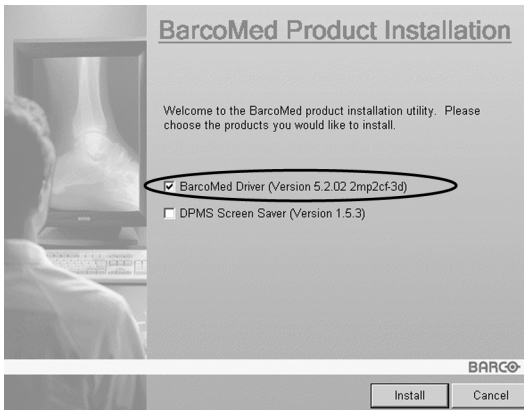

Figure 44
3. To update the driver, clear the checkbox next to **“DPMS Screen Saver”** (figure 44) and click **“Install”**.